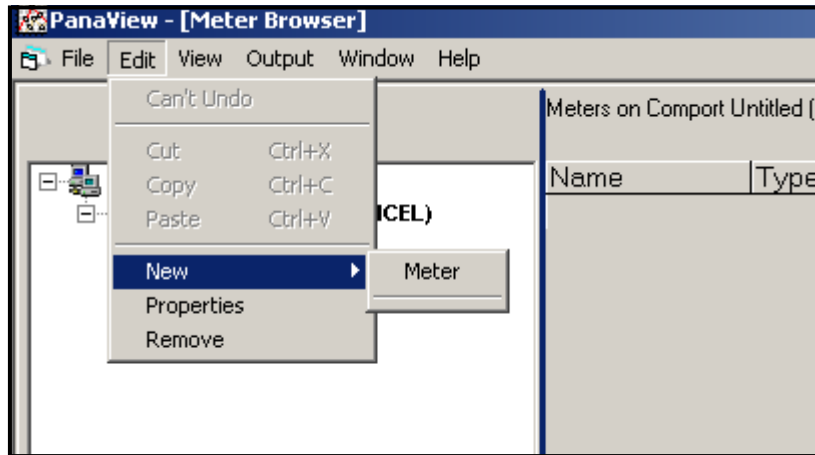

Figure 21: “New” Option in the “Edit” Menu
2. Click on the “New” option in the “Edit” menu (see Figure 21 below).